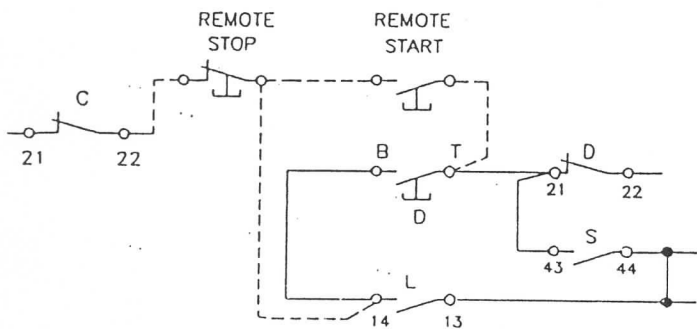

Figure 2.
Remove the Black wire C22 to D(B) and connect as shown in Figure 2